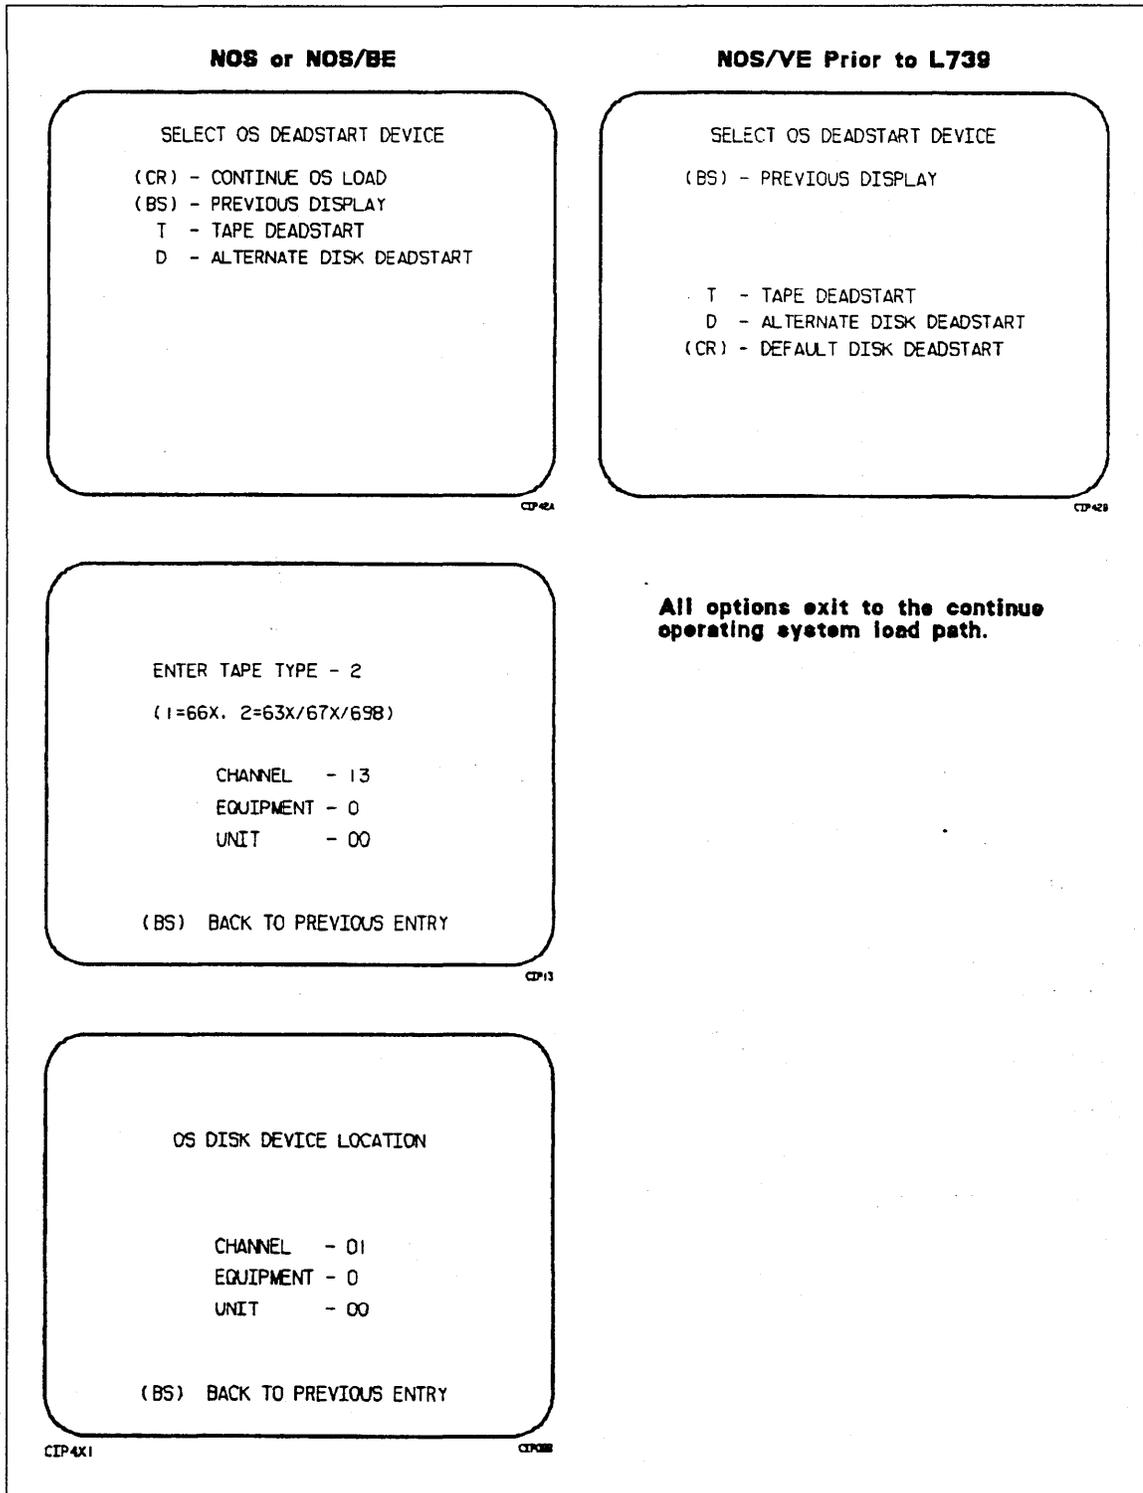

Figure 2-8. Deadstart Device
Select this option from the OPERATOR INTERVENTION display to specify an alternate disk or a tape device as the OS Load Device. From the SELECT OS DEADSTART DEVICE display (refer to figure 2-8), press (CR) to cause system deadstart processing to continue with no further intervention on your part. You cannot select additional options after this entry; therefore, the CIP device is the OS device.
Press **Backspace** to return to the OPERATOR INTERVENTION display. Table 2-4 describes the allowable entries for the SELECT OS DEADSTART DEVICE display(s) shown in figure 2-8.